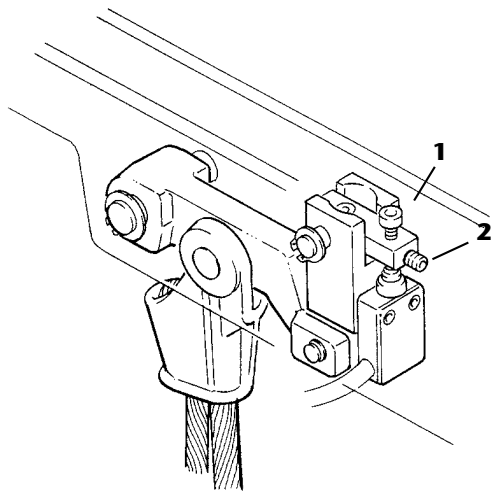

fig. 100
- The overload device of the DRH wire rope hoist has been duly registered and calibrated by **DONATI SOLLEVAMENTI S.r.l.** considering the **lifting capacity and the FEM service group foreseen for the hoist**. Following the test run, the micrometric adjusting screw for the calibrations -1- is blocked with the grub screw -2- and subjected to tamperproof sealing (fig. 100).